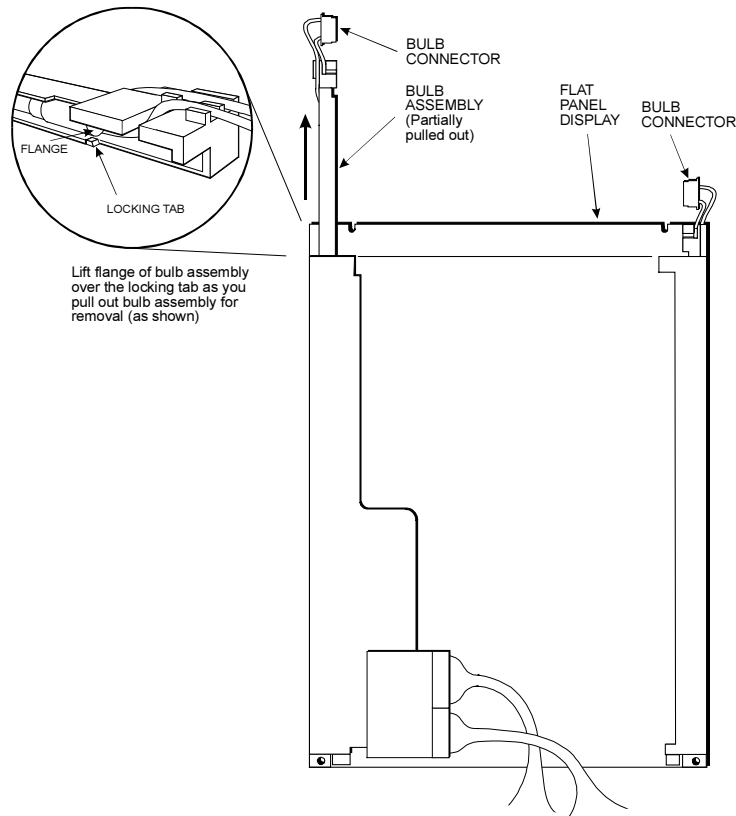

Figure D- 2. Model # LQ15X01W - Rear View
9. While holding the flat-panel display up, use a flat-bladed screwdriver to lift the flange of the bulb assembly over the locking tab (refer to Figure D- 2. Model # LQ15X01W - Rear View). This frees the bulb assembly and allows you to slide it out easily. The bulbs are attached to the assembly.